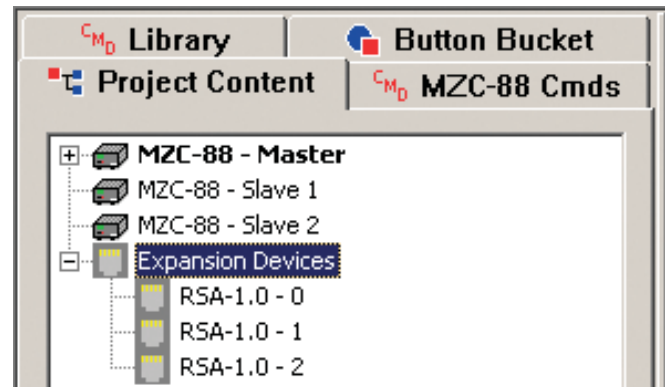

Figure 5
6. Left click OK in the Expansion Device Setup Window to set the Address. An RSA-1.0 icon will appear at the bottom of the Project Content Window under Expansion Devices as RSA-1.0-0 (assuming Address '0' was selected). If multiple RSA-1.0s are added, they will all appear and each will indicate its Address, RSA-1.0-0; RSA-1.0-1; RSA-1.0-2; etc. as shown in Figure 5.